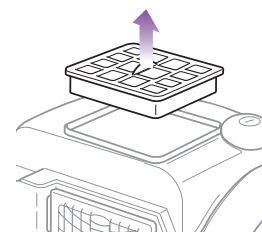

Fig. 17
- 2 Pull the filter straight out to remove. (Fig. 17)